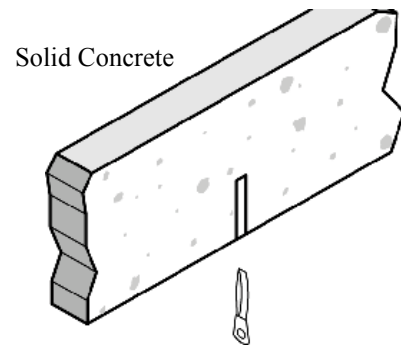

Figure 6. Anchoring in Concrete
1. Drill four 1/4-in. dia. holes 1-3/8 in. deep (6-mm dia. holes, 36 mm deep). Use ANSI B94.12-1977 carbide bit (see Figure 6).